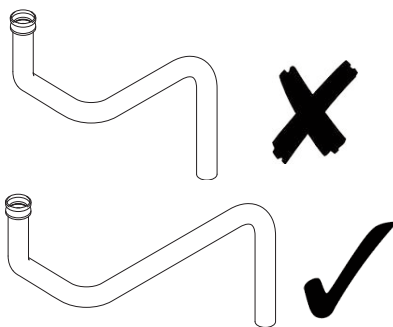

Fig. 4
- Use the copper tails supplied with the boiler, except the PRV pipe. This should be discarded and the one provided with the Stand Off used (Fig. 4) which is approximately 40mm longer.